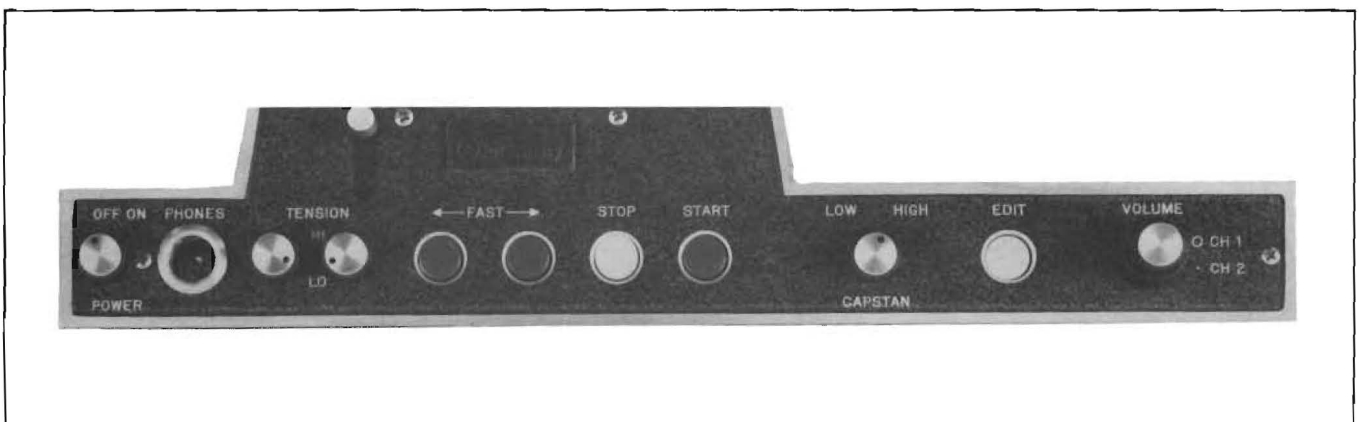

Figure 3-1. Controls and Indicators
3.2 Operating controls for the 285B are located on the front panel of the tape transport assembly, Figure 3-1. The transport control pushbuttons contain lamps to indicate the mode of operation of the transport. Controls for the 285B are identical to those of the 280B except for the *VOLUME* control and the *PHONES* jack.